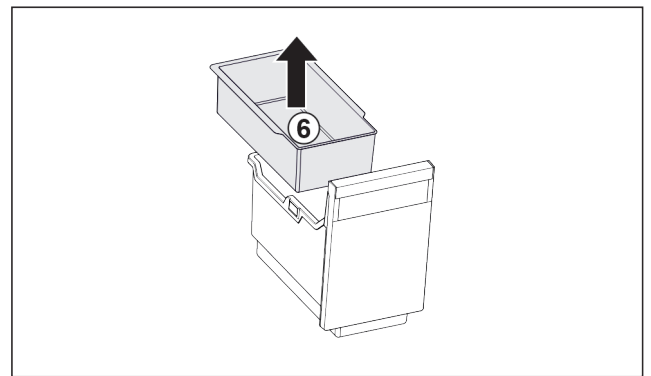

Fig. 192
- Remove the hang-on tray *Fig. 192 (6)*.